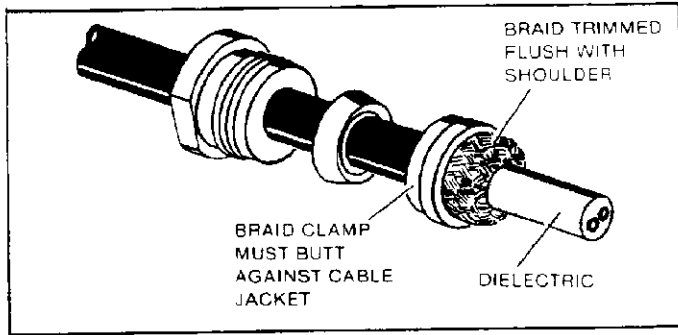

Figure 3
- (e) Fold braid back over braid clamp; trim braid flush with shoulder. (Figure 3)